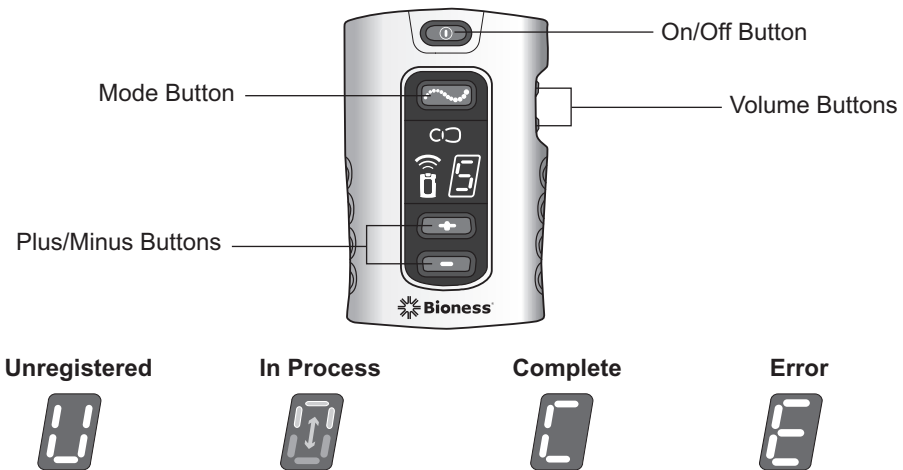

Figure 13-2: StimRouter Patient Programmer operating buttons and RF registration status indicators
4. Simultaneously press and hold for three seconds the mode and minus buttons on the Patient Programmer to start the registration process. See Figure 13-2. The Patient Programmer will sound an audio alert, indicating the registration process has begun.